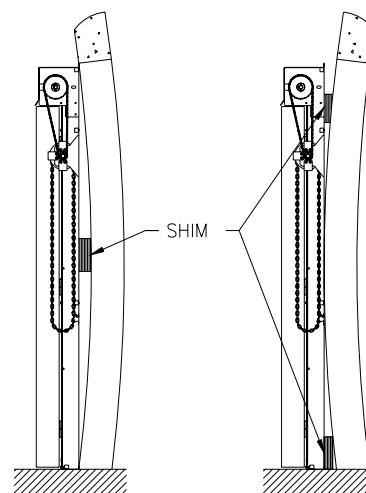

FIG. 6B
- **Shim Uprights as needed** so Uprights will not twist or warp when attached to wall (Figure 6b).